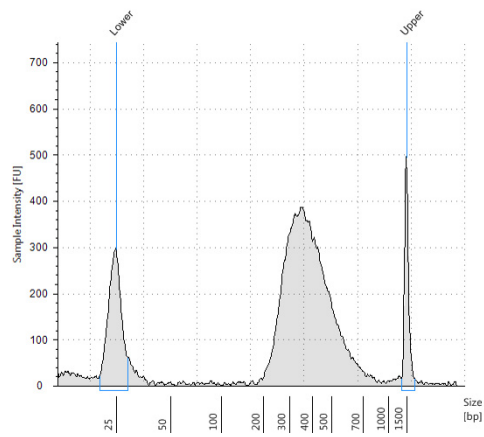
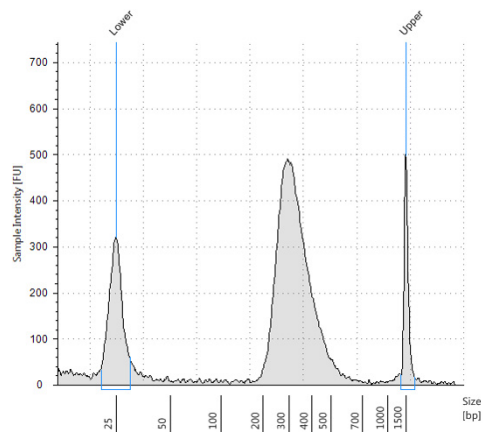
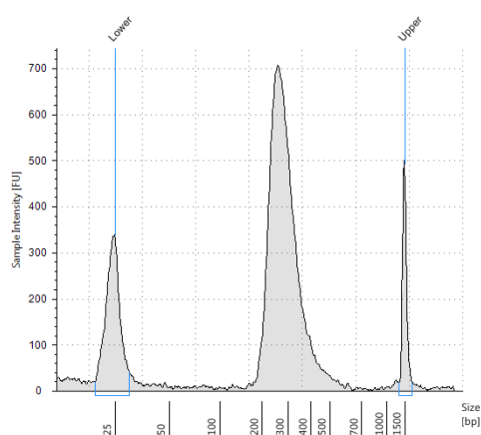

Figure 14 Post-capture library prepared from a high-quality gDNA sample analyzed using a High Sensitivity D1000 ScreenTape assay.
Figure 15 Post-capture library prepared from a typical FFPE gDNA sample analyzed using a High Sensitivity D1000 ScreenTape assay.
Figure 16 Post-capture library prepared from a low-quality FFPE gDNA sample analyzed using a High Sensitivity D1000 ScreenTape assay.
- 16 Verify that the electropherogram shows the peak of DNA fragment size positioned between 200 and 400 bp. Sample electropherograms are shown in Figure 14 (library prepared from high-quality DNA), Figure 15 (library prepared from medium-quality FFPE DNA), and Figure 16 (library prepared from low-quality FFPE DNA).
Using manual preparation of the analytical samples, you can analyze the DNA samples on Agilent 2100 BioAnalyzer, Agilent 5200 Fragment Analyzer, or Agilent 4200/4150 TapeStation. Electropherograms obtained using one of these other analysis platforms are expected to show fragment size profiles similar to those shown for the Agilent 4200 TapeStation (see **Figure 14** through **Figure 16**). **Table 83** includes links to assay instructions.